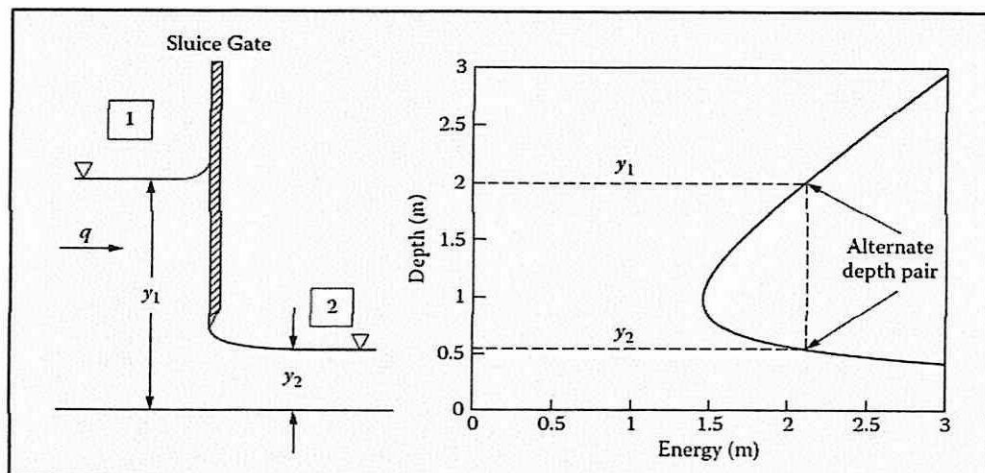

Figure Q1.1
- Q1** (a) List **THREE (3)** states of flow by comparing normal depth ( $y_o$ ) with critical depth ( $y_c$ ). (3 marks)
- (b) Briefly explain the function of control section and give **TWO (2)** examples of control sections with the aid of diagram. (5 marks)
- (d) The system shown in **Figure Q1.1** has a specific discharge of  $3 \text{ m}^3/\text{s}$ . The depth,  $y_1$ , upstream of the sluice gate is 2 m. Analyse: